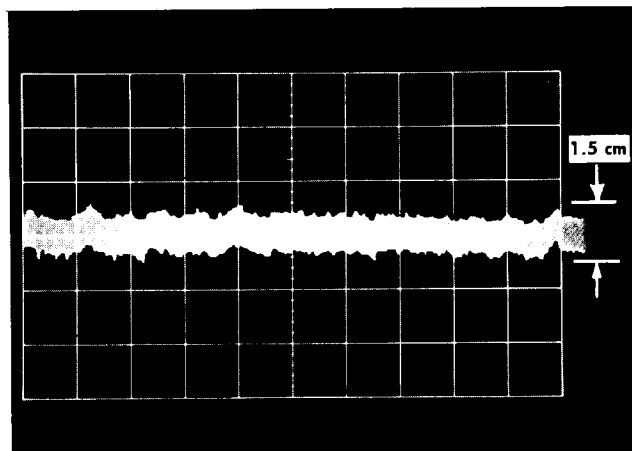

Fig. 5-4. Maximum random trace shift at 5 sec/cm, stored.
e. Check stored display for ≤1.5 centimeters peak to peak. See Fig. 5-4.